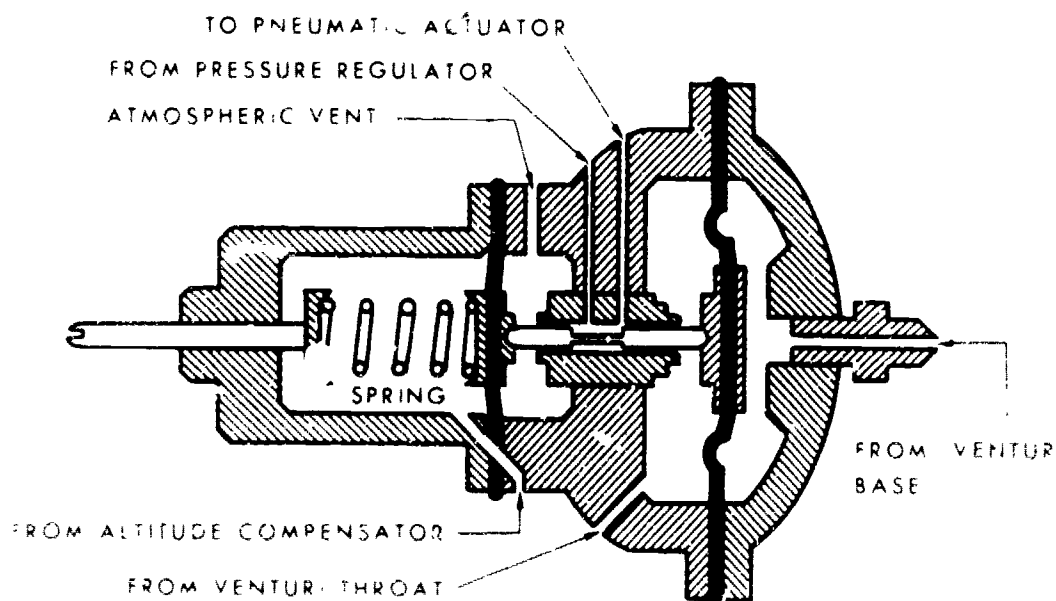

Figure 1. Servo Controller.
The servo controller (13) is made up of two diaphragm control sections (figure 1), the main or primary servo section and the secondary servo section. Each servo section is made up of an air chamber divided by a diaphragm. A metering valve is placed between these diaphragms. A spring in the left side of the secondary servo section moves the metering valve to the right (open) when air pressure in both sides of the main servo section is the same (no airflow through the venturi). The metering valve is moved to the left (closed) when pressure in the left side of the main servo section drops. The servo controller sends air to the pneumatic actuator. Air for operation of the servo controller and pneumatic actuator comes from the venturi.
Use figures 1 and 2 as guides to pick the statements that describe the purpose or characteristics of the servo controller. Answer the statements as true (T) or false (F).